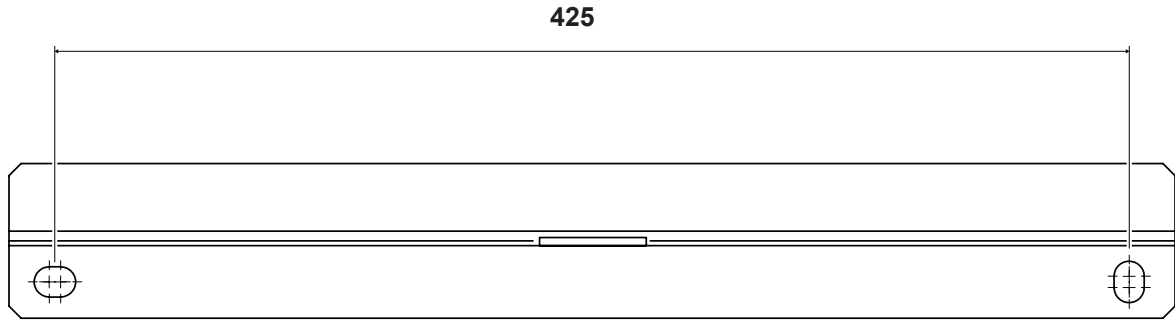

Figure 8: 25L wall bracket
- ▶ Mark the position of the centre line for the wall bracket mounting holes and mark the centre points for the fixings, see figure 8 for position.